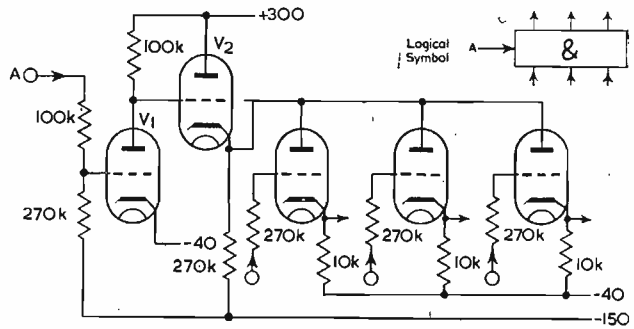

Fig. 2. Block AND gate
The parallel AND or "block AND" is illustrated in Fig. 2. It is shown with only one control voltage (A) but quite obviously it is easily adapted for multiple control lines. When a signal arrives at A,  $V_1$  is cut off,  $V_2$  conducts, the remaining valves, or output valves, behaving rather like cathode followers, transmitting signals to the outputs. It is apparent that the normal state of the output is the "1" state but this does not introduce any difficulties.